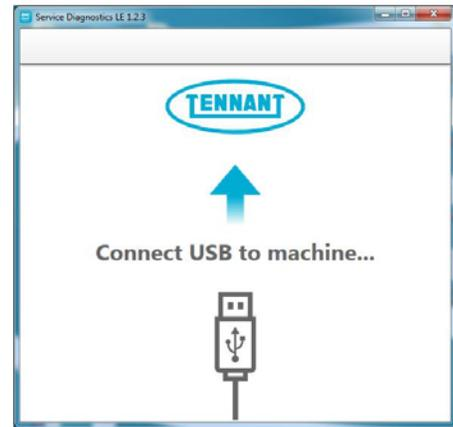

Fig. 10
2. After start up, the following screen will appear (Figure 10).